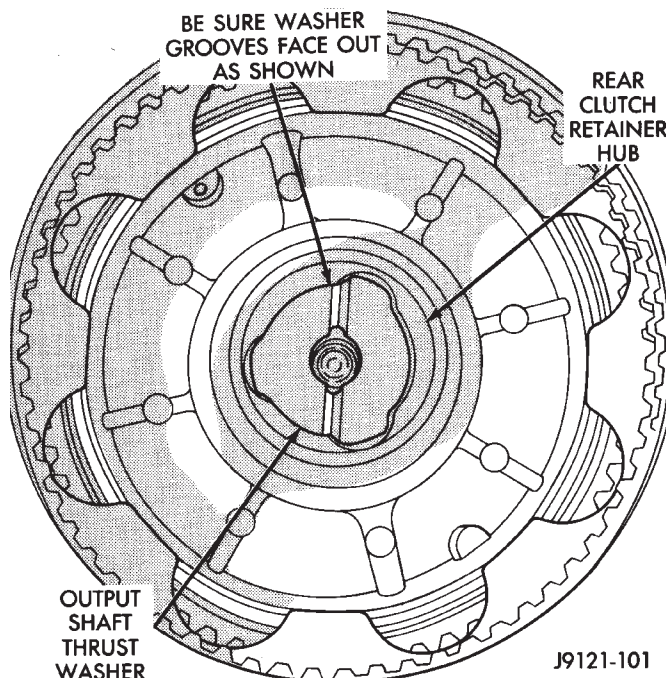

Fig. 135 Intermediate Shaft Thrust Washer
(6) Install intermediate shaft thrust washer in hub of rear clutch retainer (Fig. 135). Use petroleum jelly to hold washer in place. Position washer so grooves are facing outward. **Washer only fits one way in clutch retainer hub.**
(7) Place transmission case in upright position, or place blocks under front end of transmission repair stand to tilt case rearward. This makes it easier to install front/rear clutch assembly.